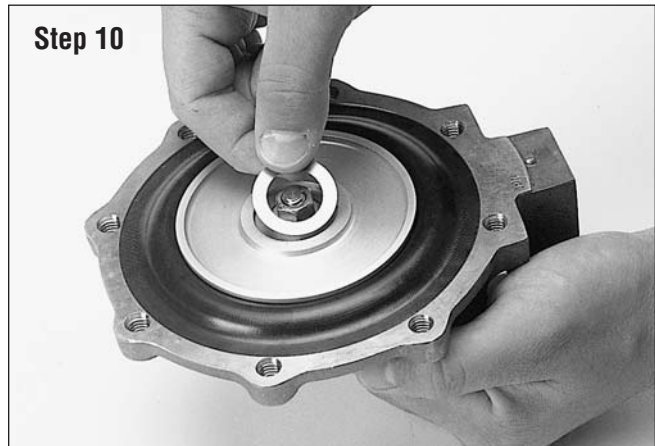

Figure 32 - Place one Spring Washer on the Diaphragm assembly.
10. Place one Spring Washer onto the Diaphragm Plate. The washer prevents the Main Spring from "binding" on the Diaphragm Assembly when it is compressed (refer to Figure 32).